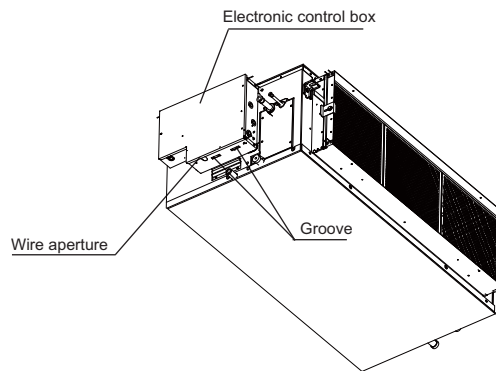

Fig. 22 —LED Display Panel Installation Location
2. Insert the buckles into the grooves in the electronic control box, and slide the display panel horizontally to lock in place. See Figs. 22 and 23.